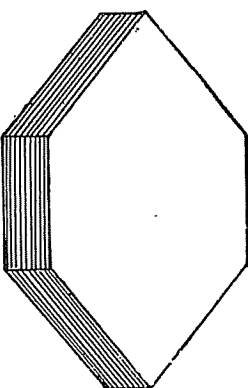

Fig. 35
**Crystal System**—Usually in the form of six-sided plates (Fig. 35). Also massive and in scales.